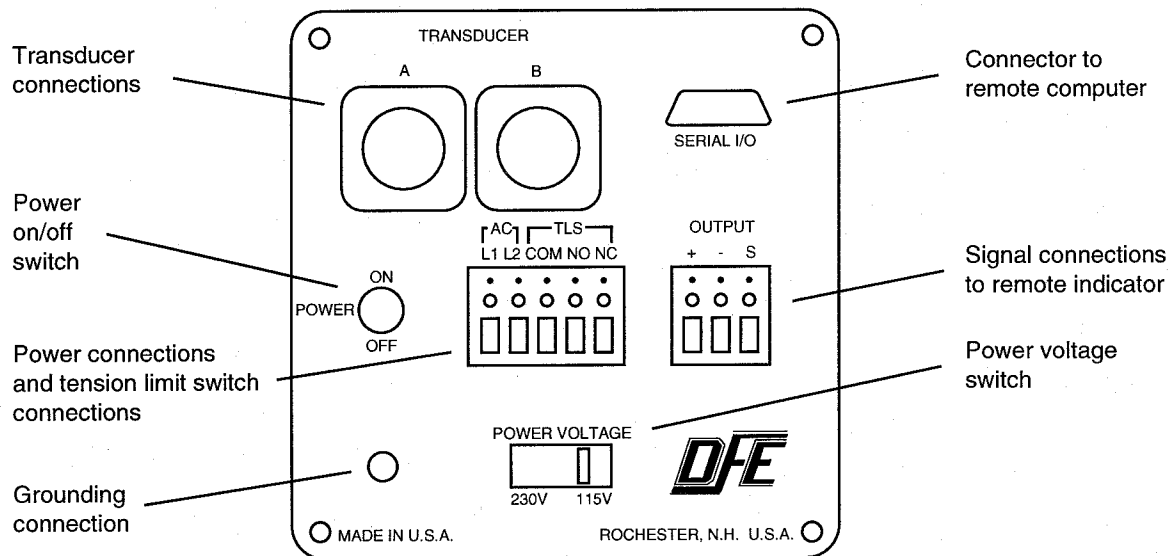

Figure 4 - Rear Panel
- a. To select voltage output or current output, disassemble the unit as described in section 3.2. Figure 3 shows the locations of the two DIP switches mounted inside the unit. Figure 4 shows the rear panel on the unit.